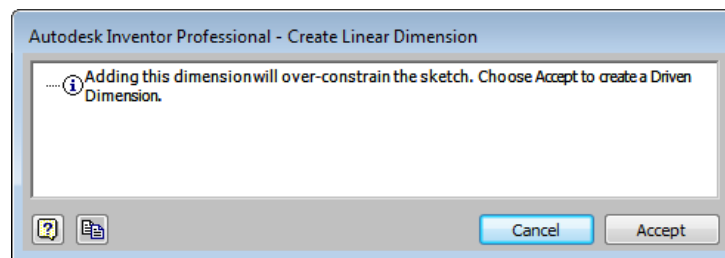
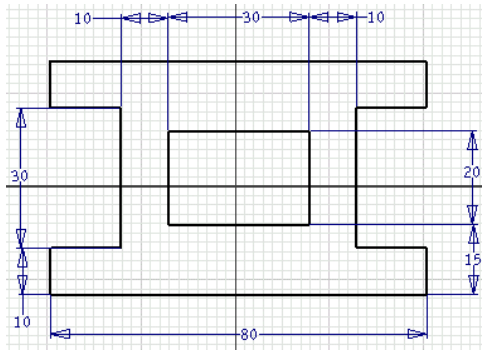

Figure 3-50 The Autodesk Inventor Professional message box
Figure 3-51 Sketch after adding dimensions
- c. Add the required constraints and dimensions to complete the sketch, refer to Figure 3-51.
With this, you have applied all the required constraints and dimensions to the sketch. Now the sketch is ready to be converted into a feature. If you try to add more constraints or dimensions to this sketch, the **Autodesk Inventor Professional - Create Linear Dimension** error message box will appear, informing that adding this dimension will over-constrain the sketch, see Figure 3-50. If you still want this dimension to be displayed, choose the **Accept** button from this message box, the dimension will be added as a driven dimension. A driven dimension is placed inside parentheses and is not used during the manufacturing process. This dimension is used only for reference. Note that you cannot edit the value of a driven dimension. The sketch after applying all dimensions and constraints should look similar to the one shown in Figure 3-51.